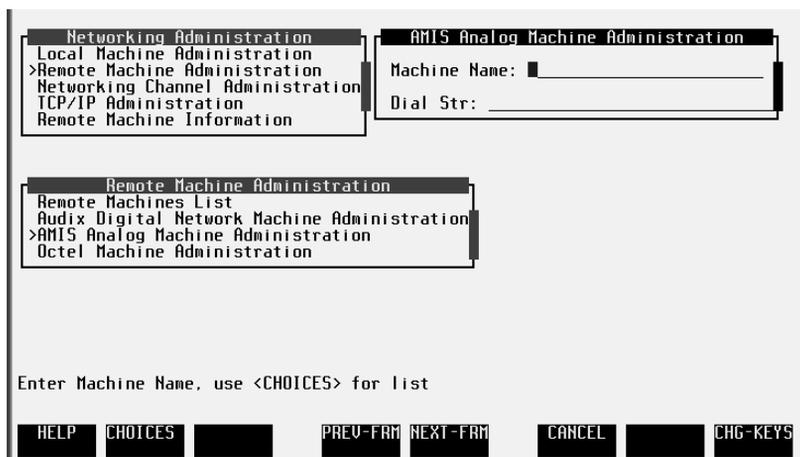

Figure 1. Example of an Avaya Interchange Screen
- The Avaya Interchange system displays *screens*, *windows*, and *menus*. Screens make up the Interchange user interface through which you can enter data or commands or access windows or menus (Figure 1). Windows show and request system information (Figure 2). Menus present options from which you can choose to view another menu, screen or window (Figure 3).